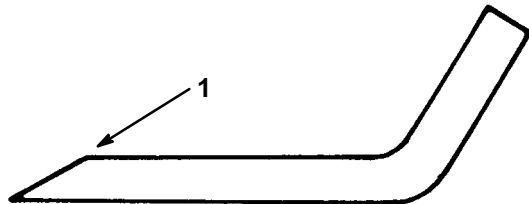

Figure 32
1. Use a file to sharpen the cutting edge at both ends of the blade (Fig. 32). Maintain the original angle. The blade retains its balance if the same amount of material is removed from both cutting edges.